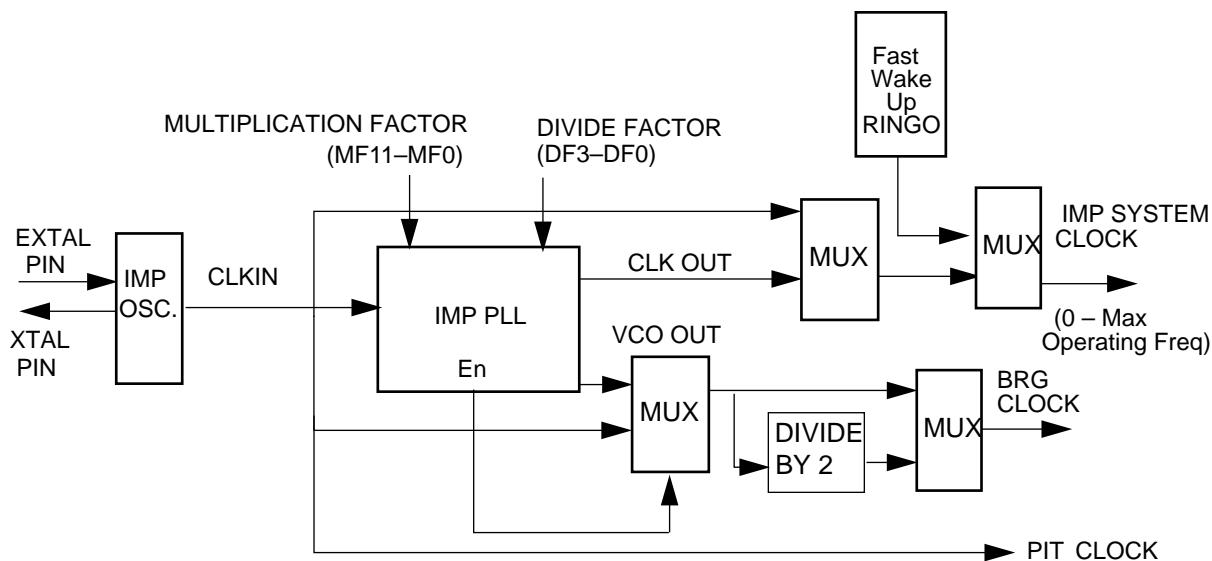

Figure 2-2. MC68LC302 PLL Clock Generation Schematic
2.4.3.1 SYSTEM CLOCK CONFIGURATION. The IMP has an on-chip oscillator and phased locked loop (Figure 2-2). These features provide flexible ways to save power and reduce system cost. The operation of the clock generation circuitry is determined by the following registers.
Figure 2-2 shows the IMP system clocks schematic with the IMP PLL enabled. Figure 2-3 shows the IMP system clocks schematic with the IMP PLL disabled.
Since the clock source for the periodic interrupt timer is CLKIN (see Figure 2-2), the PIT timer is not disturbed when the IMP PLL is in the process of acquiring lock.
2.4.3.5.3 PIT Clock. CLKIN is supplied to the periodic interrupt timer (PIT) submodule which allows the PIT clock to run independently of the system clock (refer to Figure 2-2 and Section 3 System Integration Block (SIB)).